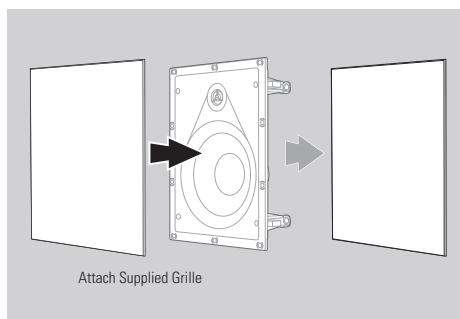

Figure 8
5. Place the grille into the loudspeaker. (Figure 8)